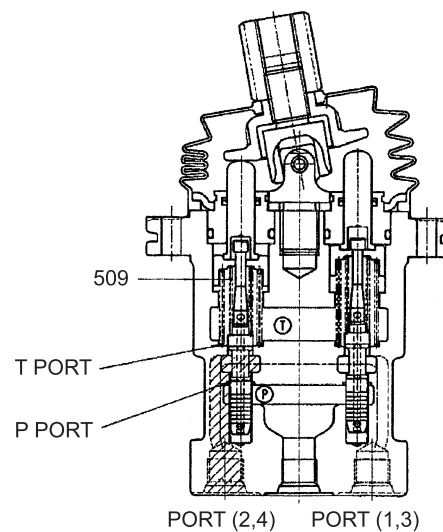

Fig. 24-10 When the lever is held
(3) Lever held (See Fig. 24-10)